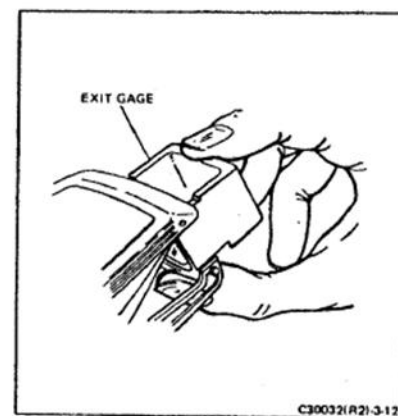

FIGURE 3-12 INSTALLING THE EXIT PUPIL GAGE
- a. Mount the exit pupil gage onto the camera eye-lens (Figure 3-12).
- (1) Engage the left side gage rail on the eye-lens. (The right side is identified by a 3/4" horizontal slot.)
- (2) Slowly slide the right side in place. A distinct "clicking" will be heard when the gage is secure.